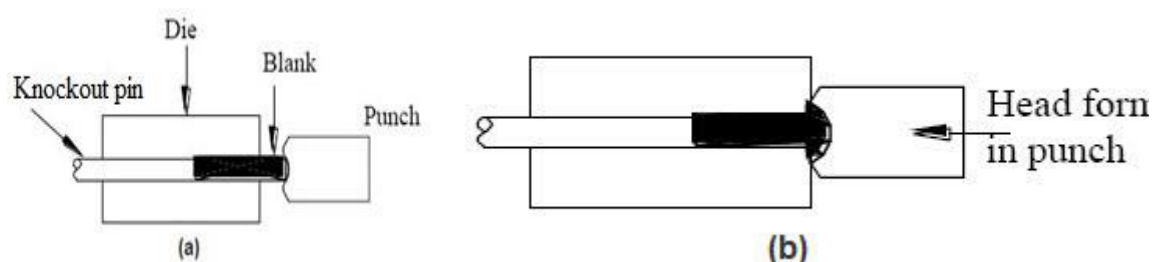

Figure 16.6: Rivet head formation.
1. Keep the blank in the die as shown in **Figure 16.6 (a)** below and position the knockout pin depending on the length of rivet required. The punch should have the negative shape of the rivet head as shown.
2. Apply force through the punch. At the end of the stroke, the head is formed as shown in **Figure 16.6 (b)**.